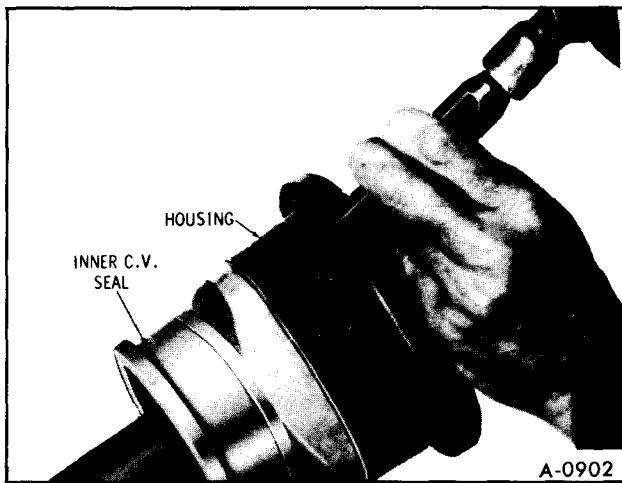

Figure 21—Removing Inner C.V. Joint Seal
1. With axle assembly on a bench, pry up staked areas on seal retainer and drive seal off housing with hammer and chisel. (figure 21)